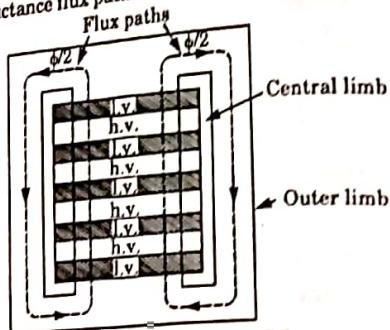

Fig. 4.1.2. Shell-type transformer.
1. In the shell-type transformer (Fig. 4.1.2), both primary and secondary windings are wound on the central limb, and the two outer limbs complete the low-reluctance flux paths.